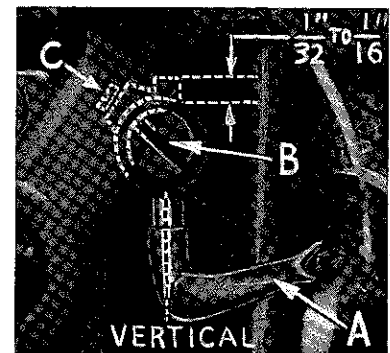

Fig. 7
its shank. Insert spreader holder into spreader shaft, if it is not already in place. Screw (C, Fig. 7) on clamp collar holds spreader holder in the shaft, and allows holder to be rotated or adjusted laterally.
Insert spreader (A, Fig. 7) in its holder. Screw (B) holds spreader in its holder, and permits it to be pushed in or out or turned around
Preliminary Setting: When spreader is at the right end of its stroke, spreader holder should be set to position spreader shank about vertical (Fig. 7). Top end of spreader shank should extend  $1/32$  to  $1/16$  inch above the spreader holder (Fig. 7).